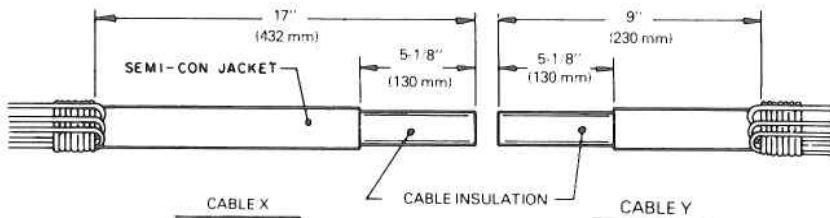

FIG. 1
**A. PREPARE CABLES ACCORDING TO STANDARD PROCEDURES (FIGURE 1)**
3. Continue preparation of cables according to Figures 1 & 2.